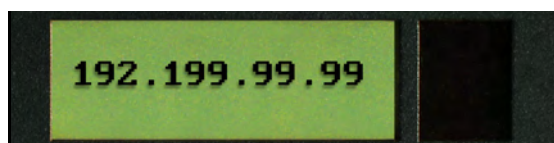

FIG. 46 Example of the current display
- Refer to *Configuring the MAX-CSE for communication* section on page 65. The MAX-CSE is available from either the front LCD (FIG. 46) or from the IP Settings page of the UI.